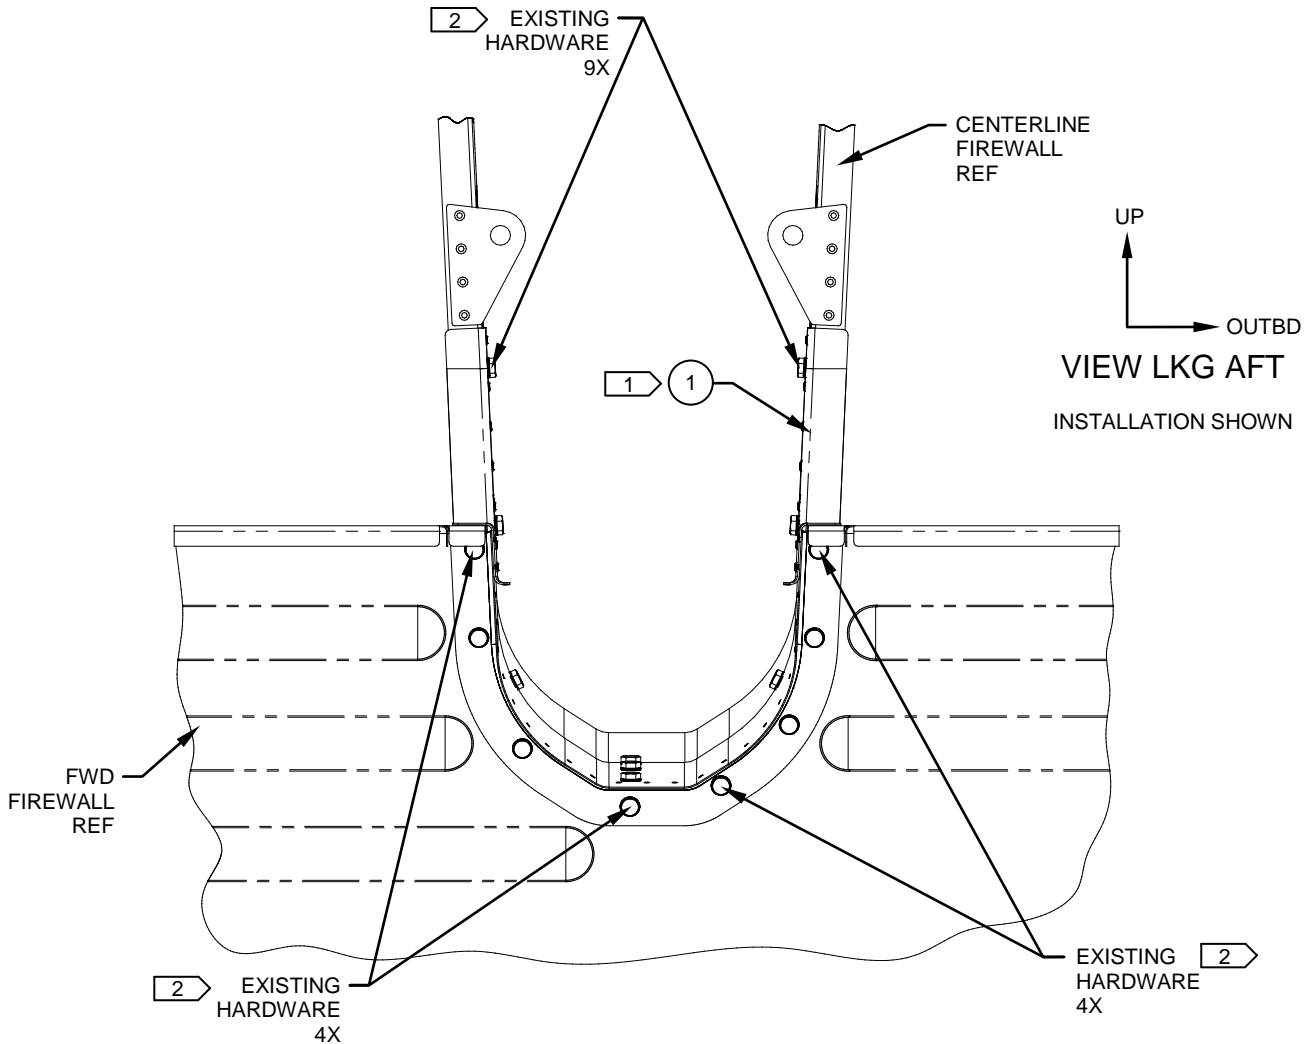

Figure 2
5. Install the Cover, Assy (Item 1) using the existing hardware except as shown. Reference Figures 2 & 3 and Flag Note 1.